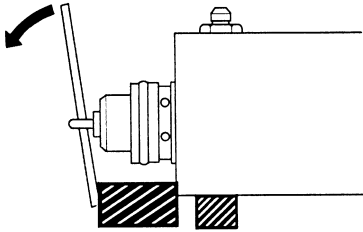

Figure 14. Removing the piston.
- It may be useful to use a pry bar as a lever as shown in Figure 14. Be careful to not damage the piston.